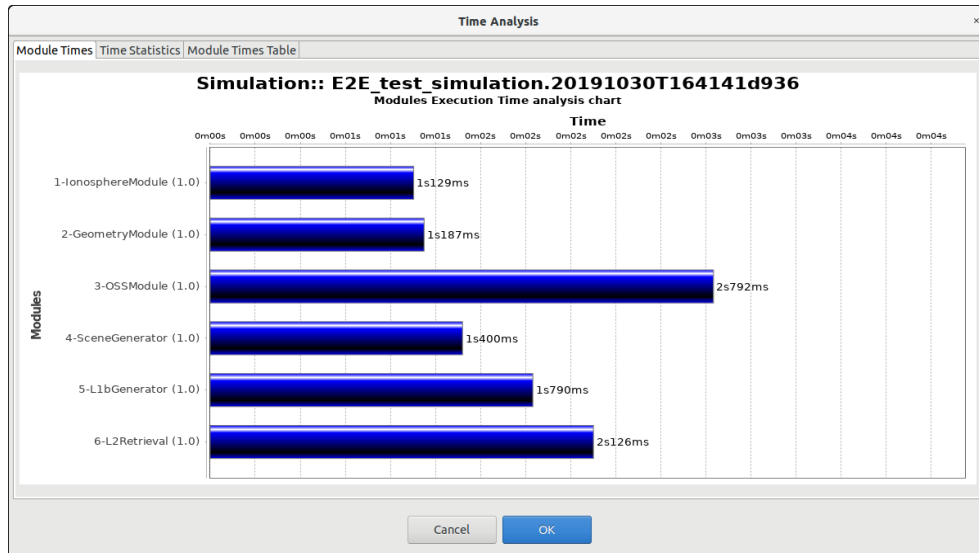

Figure 4-64: Bar graph showing module times
- Module Times* tab: presents the module execution time in a bar chart graph¹⁰. See Figure 4-64.